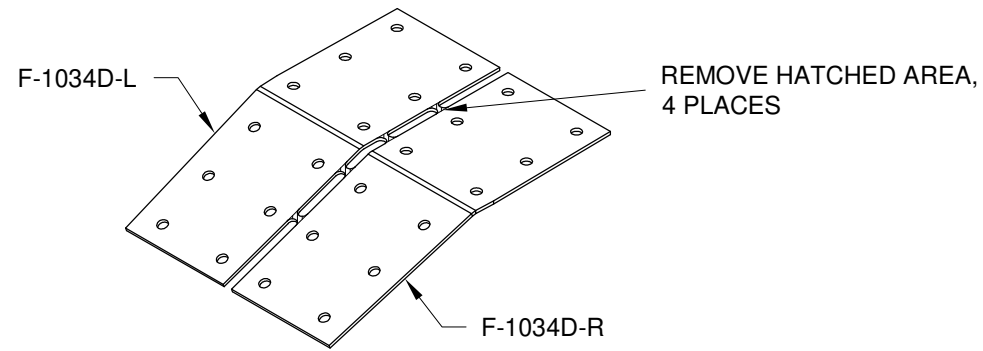

FIGURE 1: BREAKING APART THE GUSSETS
Step 1: Cut the F-1034D-L and -R Gussets apart from one another as shown in Figure 1.